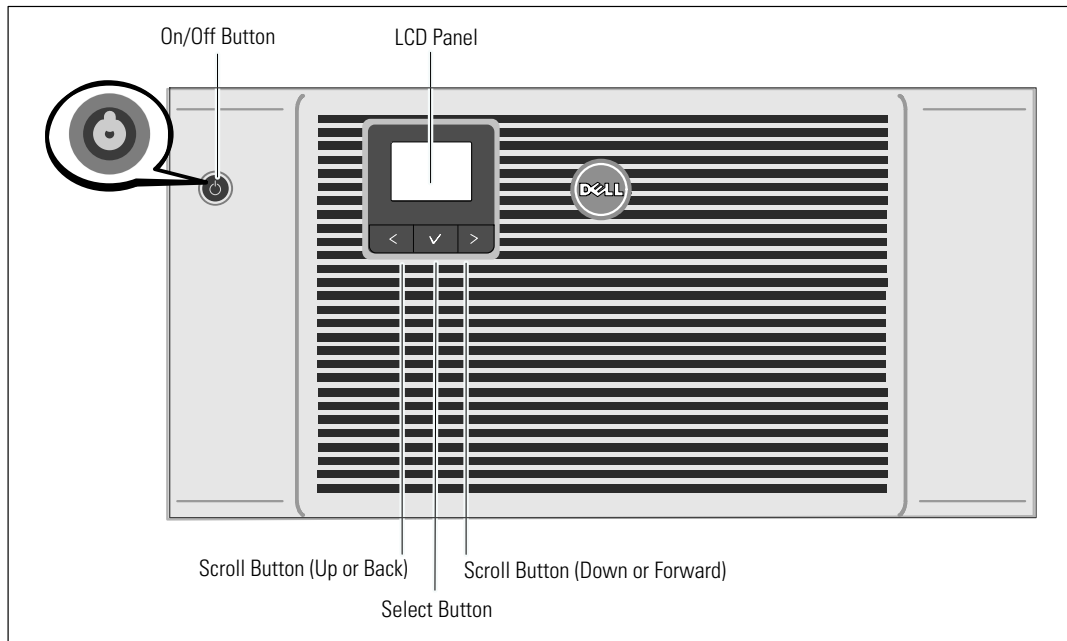

Figure 23. Starting the UPS
- 5 Press the On/Off  button on the UPS front panel (see Figure 23).